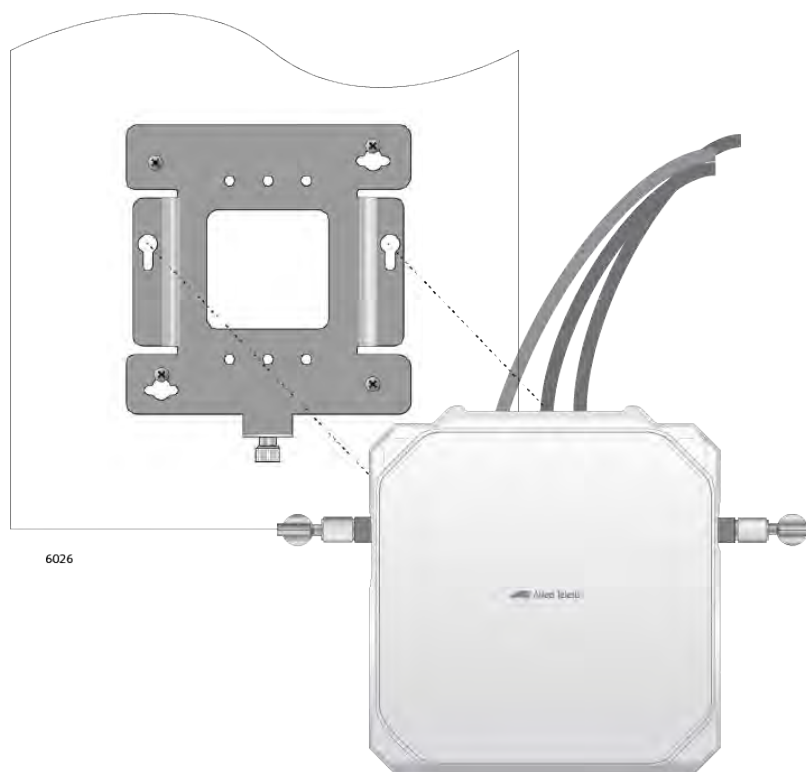

Figure 26. Installing the Access Point on the Mounting Bracket
1. Align the bottom of the access point over the bracket so that the two screws on the bottom of the device fit into the bracket keyholes. Refer to Figure 26. (These are the two access point chassis screws installed in “Pre-fitting the Mounting Bracket on the Access Point” on page 42.)